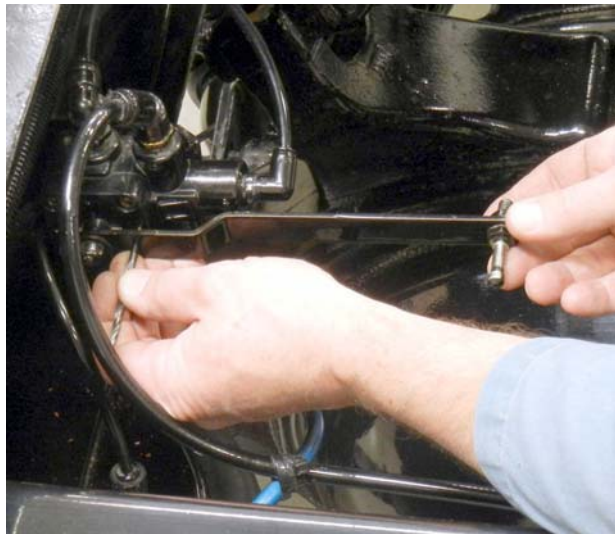

**Fig. 6, Suspension Ride Height Measurement**
22. Measure the suspension ride height on the same side the height control valve is mounted. See **Fig.6**.